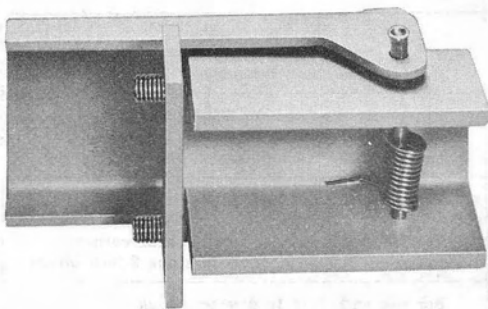
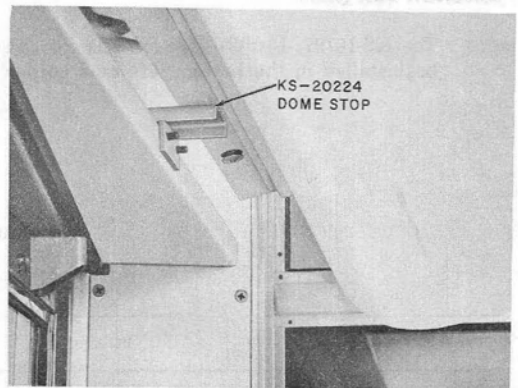

Fig. 2—KS-20224 Dome Stop
Fig. 3—KS-20224 Dome Stop, Installed
- 2.09 A KS-20224 dome stop (Fig. 2), a spring loaded device, is available to mount along the door track (Fig. 3) to prevent the dome from falling when the fasteners are released.